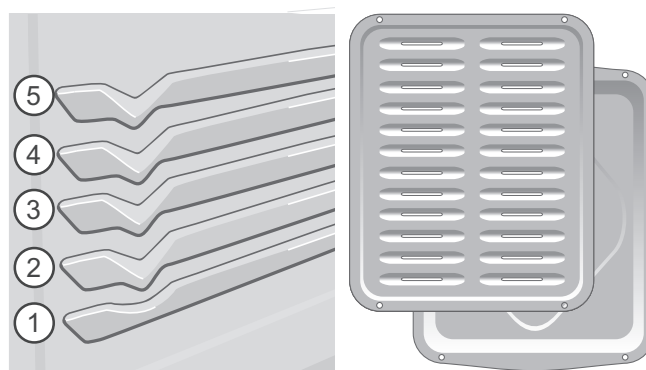

Figure 27: Broil rack positions (L) and broil pan with insert (R)
2. Position bakeware in oven to the preferred rack position (See Figure 27).